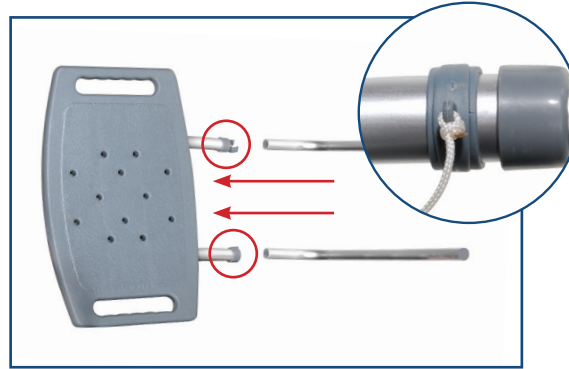

figure 3
5. To assemble backrest, insert pole into backrest support and lock in place using attached locking collar. Repeat for second pole (Figure 3).